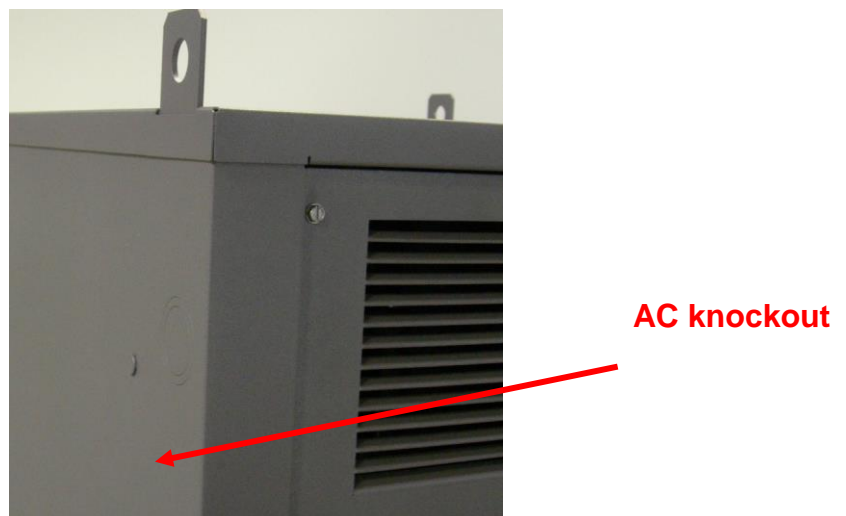

Figure 9: AC knockout
5. Push out the appropriate knockout (Figure 9) and pass the 480 VAC input power wires through, using the appropriate conduit or strain relief fittings per local and national codes.